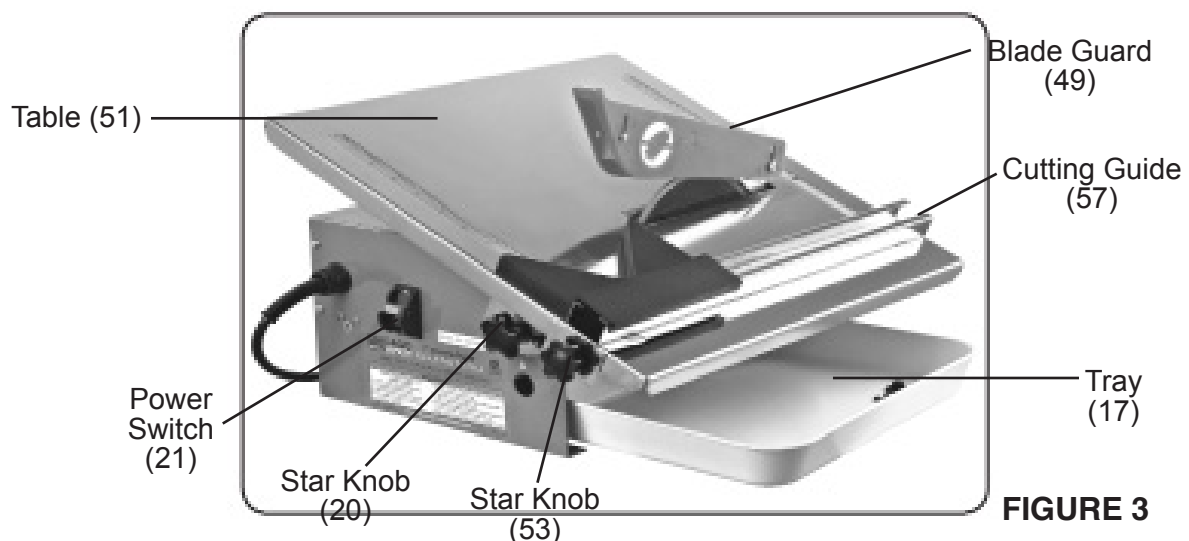

FIGURE 3
1. Fill Tray (17) with water and carefully slide Tray under Blade. Make sure water level is deep enough to cover lower edge of Cutting Wheel Blade, but not so deep as to spill over edge of Tray. (See Figure 3, below.)
2. Loosen Star Knob (20) and adjust the Cutting Guide (57) to set desired cutting *width*. Retighten the Star Knob.
3. If necessary, loosen second Star Knob (53) and tilt Table (51) to adjust *angle* of cut. Retighten Star Knob.
4. Connect Power Cord/Plug (34) of Tile Saw to the nearest 120 volt, grounded, electrical outlet.
6. Fill water in Tray (17) to proper level. Turn Power Switch (21) to its “ON” position, and allow Blade to spin up to full speed.
7. Check to make sure Blade is picking up water from Tray (17). If not, turn off Tile Saw. Unplug machine, and refill Tray to appropriate level. Restart Tile Saw.
8. Place workpiece you are cutting firmly against Cutting Guide (57) and slowly feed workpiece into Blade.
9. **CAUTION!** Keep hands and fingers away from Blade. Also hold the workpiece you are cutting firmly against Cutting Guide (57) throughout cutting process. Failure to do so may cause workpiece to be propelled by Blade toward your body and/or into Saw.
10. Once cut is complete, turn Power Switch (21) to its “OFF” position. Unplug Power Cord/Plug (34) from its electrical outlet. Allow Blade to stop on its own. Then remove the workpiece and any scrap material from the Table (51) of Saw.
11. Remove and empty Tray (17) of its contents, and thoroughly rinse with clean, cold water. Replace Tray.